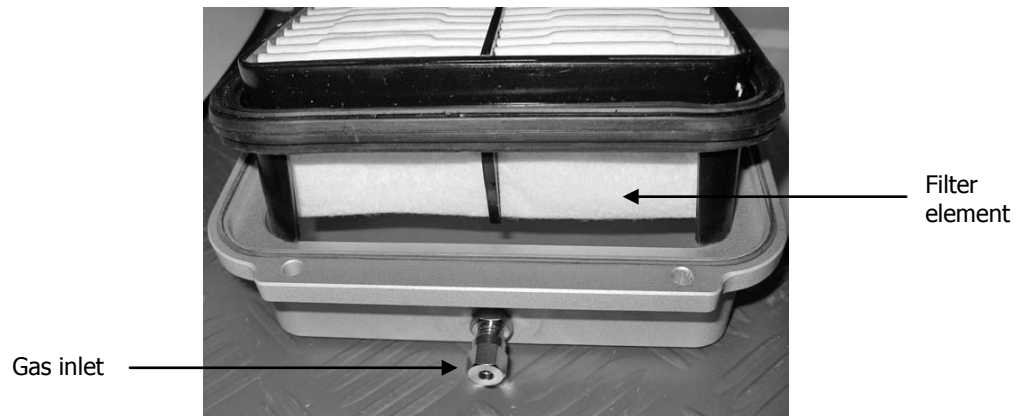

Figure 76 Coarse filter
5. If replacing the coarse filter element (P/N L8201804), fit the new filter with the side windows turned towards the gas inlet at the back of the instrument (Figure 76).